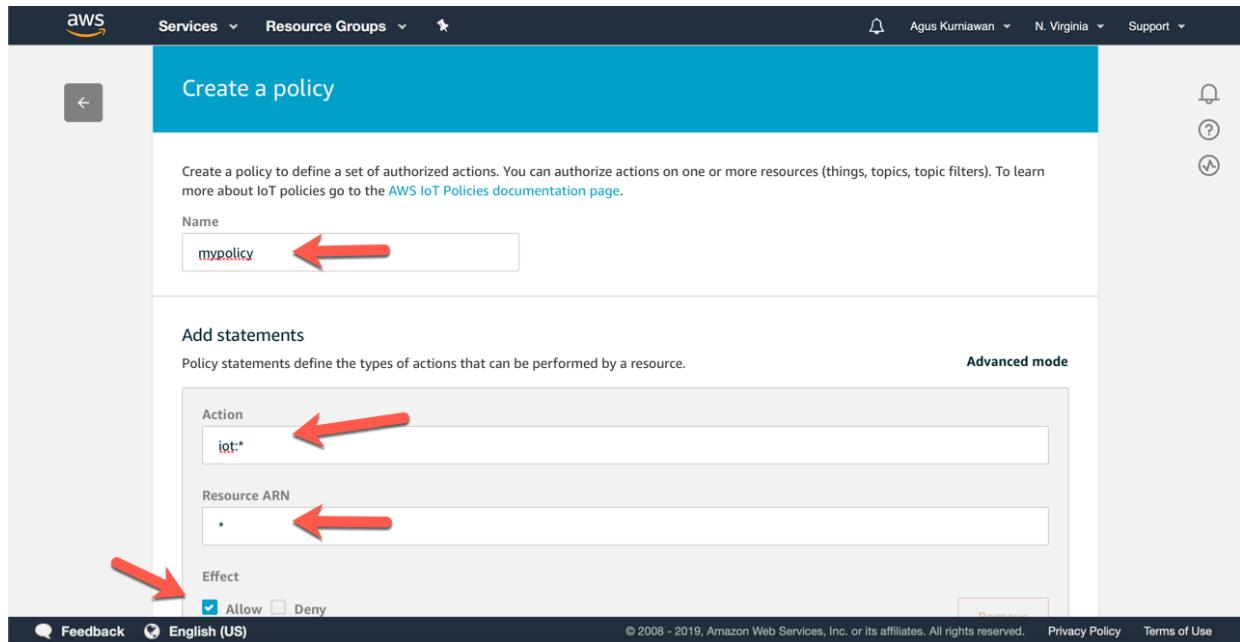

Figure 10.8: Giving the policy name and its permissions
5. After you have clicked on Create, you will get a web form as shown in *Figure 10.8*.